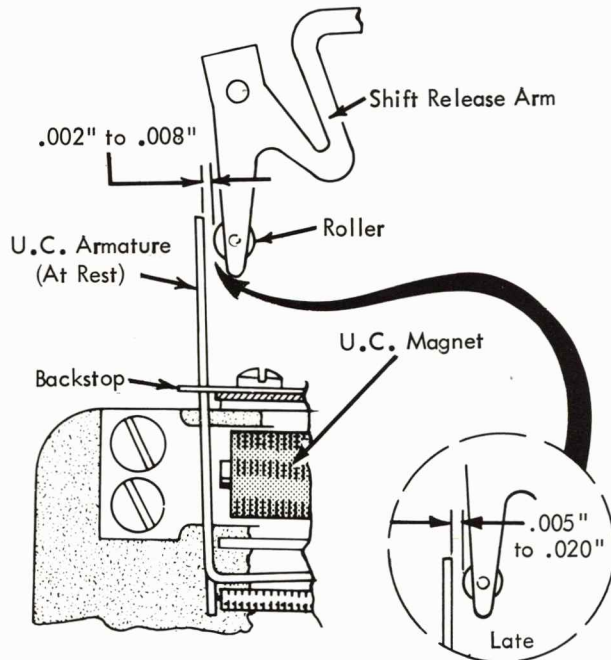

FIGURE 39. U.C. Armature Backstop
6. UC Armature Backstop (Fig. 39) - Position (armature at rest) so that the UC armature clears the release arm follower by .002" to .008".
- 6.1 UC Armature Backstop (Late) (Fig. 39) - Position armature backstop (armature at rest) so that the UC armature clears the release arm roller by .005" to .020".